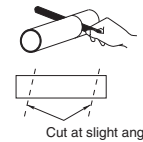

Fig. 3-78
- (5) Measure the thickness of the wall from the inside edge to the outside edge and cut PVC pipe at a slight angle 6 mm shorter than the thickness of the wall. (Fig. 3-78)